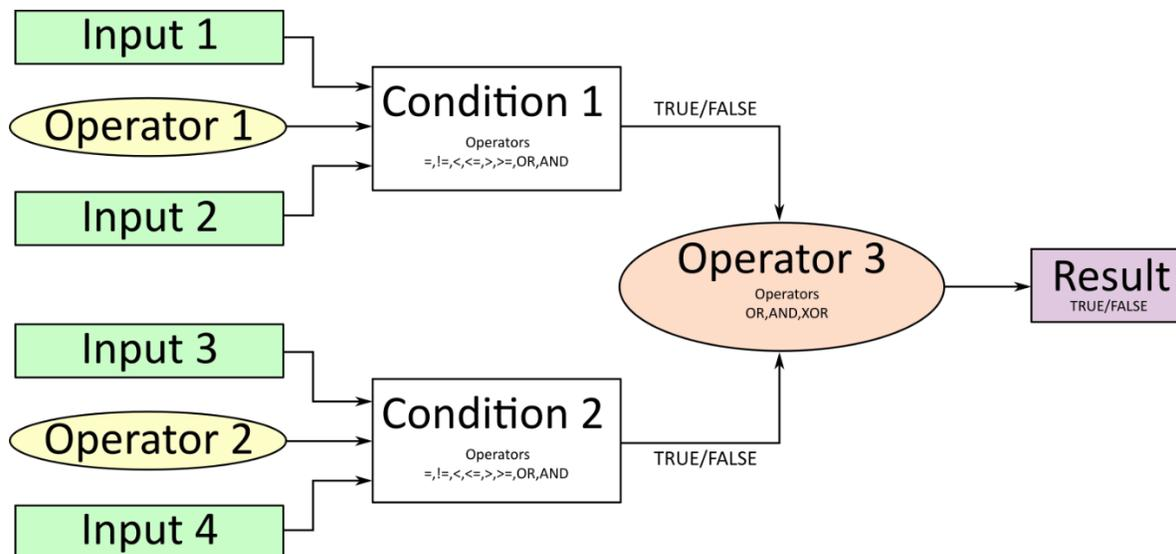

Figure 20 - Conditional Block Diagram
The Conditional Block compares up to four different input sources with different logical or relational operators. The result of each block can therefore only be **true** (1) or **false** (0). Figure 20 demonstrates the connections between all parameters.